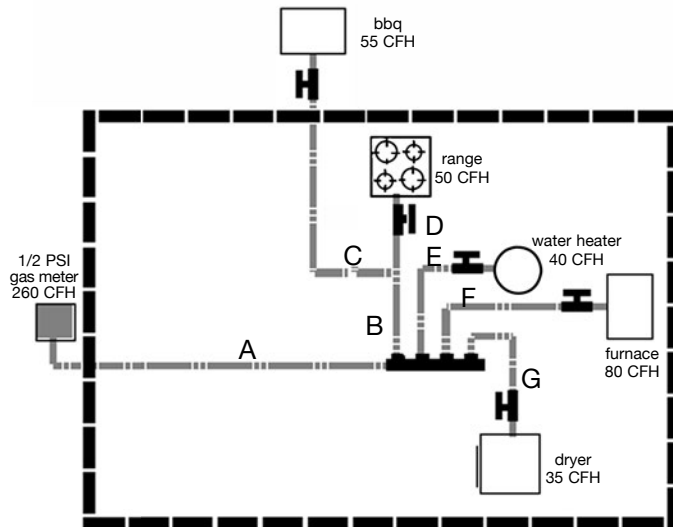

Figure: 3-4
1. The system shown in Figure: 3-4 has a barbecue installed nearby the range. A parallel arrangement was chosen for the medium pressure system (12 inch W.C. with 1 inch W.C. drop) with a single run feeding both range and barbecue in series.